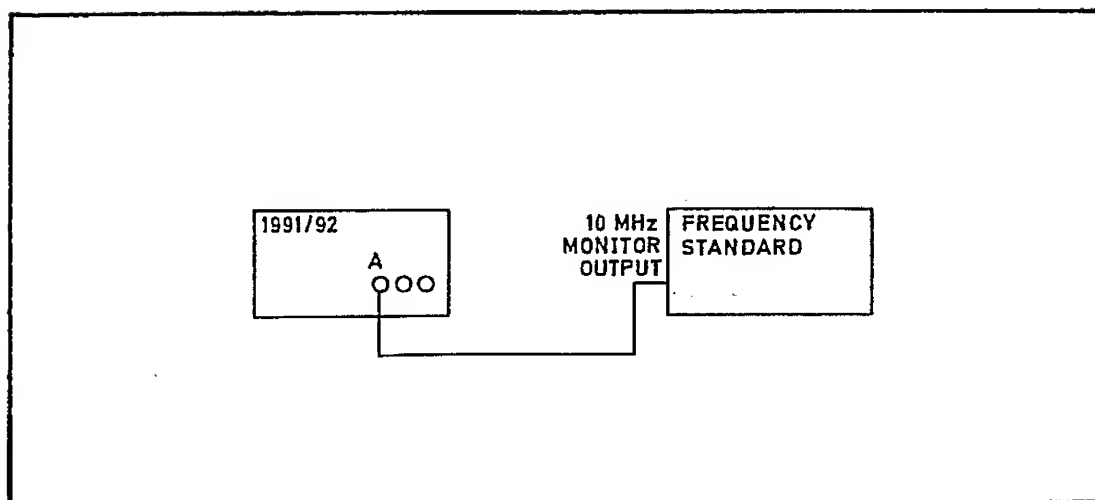

Fig 7.14 Connections for Internal Frequency Standard Adjustment
- (1) Switch on the 1991/92. Select FREQ A and verify that 00000000 is displayed. If the Option 04B (9423) frequency standard is fitted, press the RESOLUTION \uparrow key until 000000000 is displayed.
- (2) Connect the test equipment as shown in Fig 7.14.